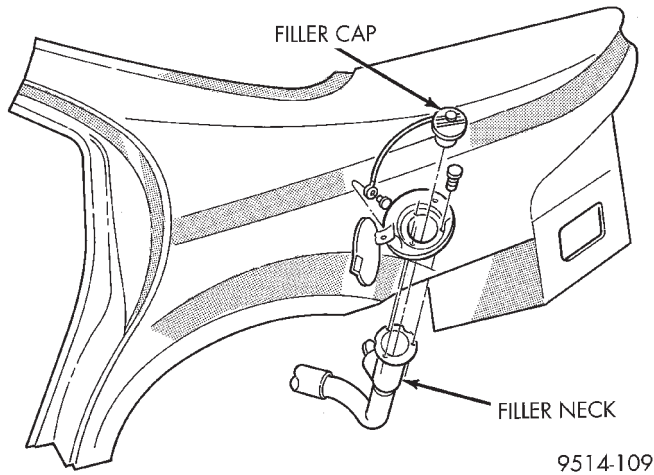

Fig. 36 Fuel Filler Neck Removal/Installation
- (1) Loosen fuel filler tube cap.
- (2) Remove fuel filler neck screws (Fig. 36).
- (3) Disconnect Ground strap from body.
- (4) Disconnect fuel filler tube hose from fuel tank neck. Remove fuel filler tube assembly.